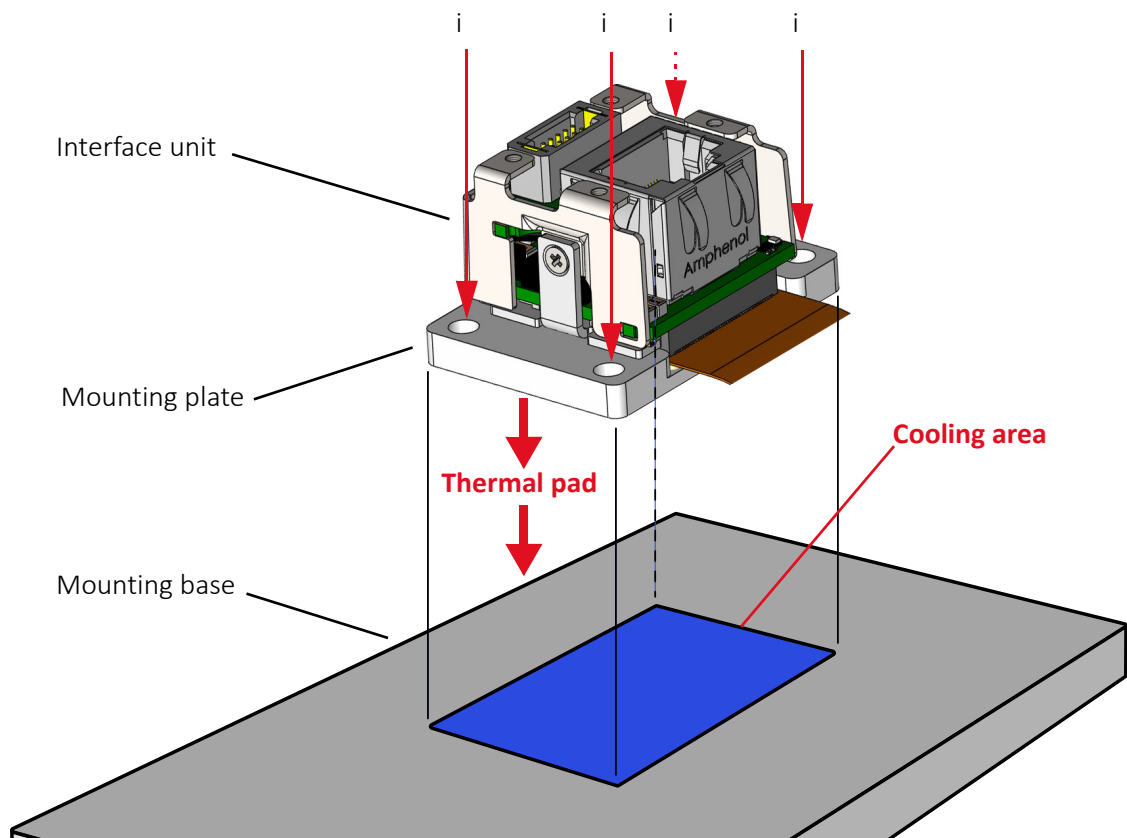

Figure 60: Mounting the G1 BL interface unit to the base
1. Using 4 compatible M3 screws (i), mount the interface unit to the mounting base, as shown in Figure 60 below.
Use a metal base with a large surface area and a thermal pad for the **cooling area** (blue area in Figure 60), to ensure optimum heat dissipation for the interface board.